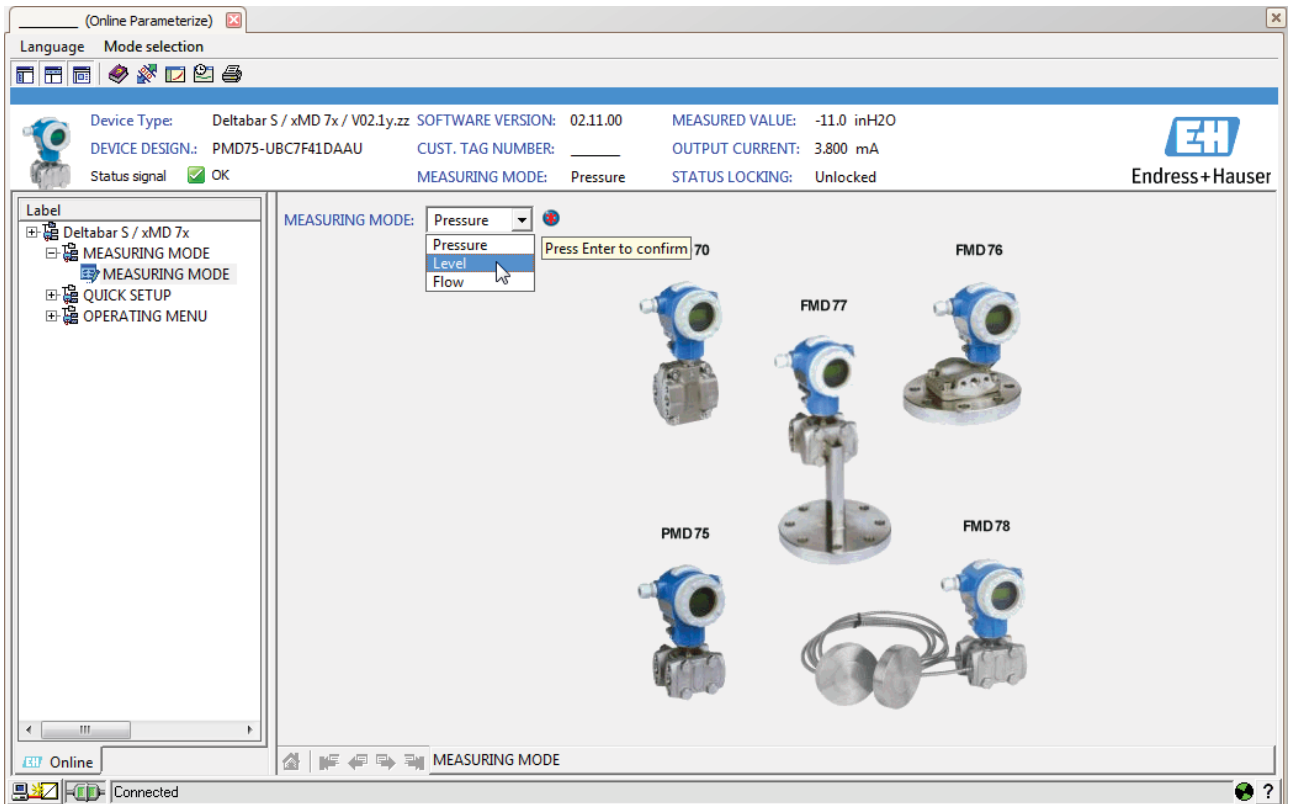

Figure 2-11. Level measurement.
9. Pressure is the default measuring mode. In the *MEASURING MODE* drop-down menu, select *Level*, as shown in Figure 2-11. Press *Enter* to confirm the command.